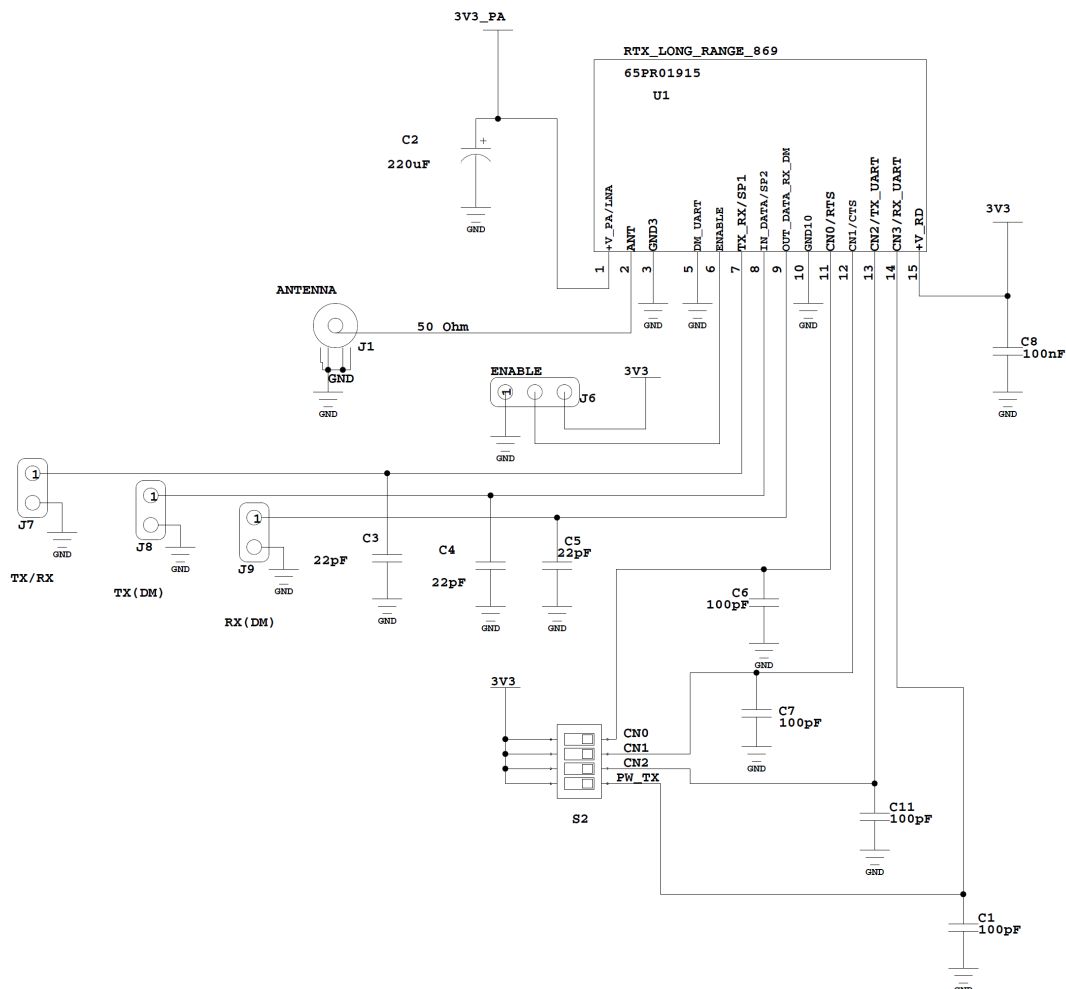
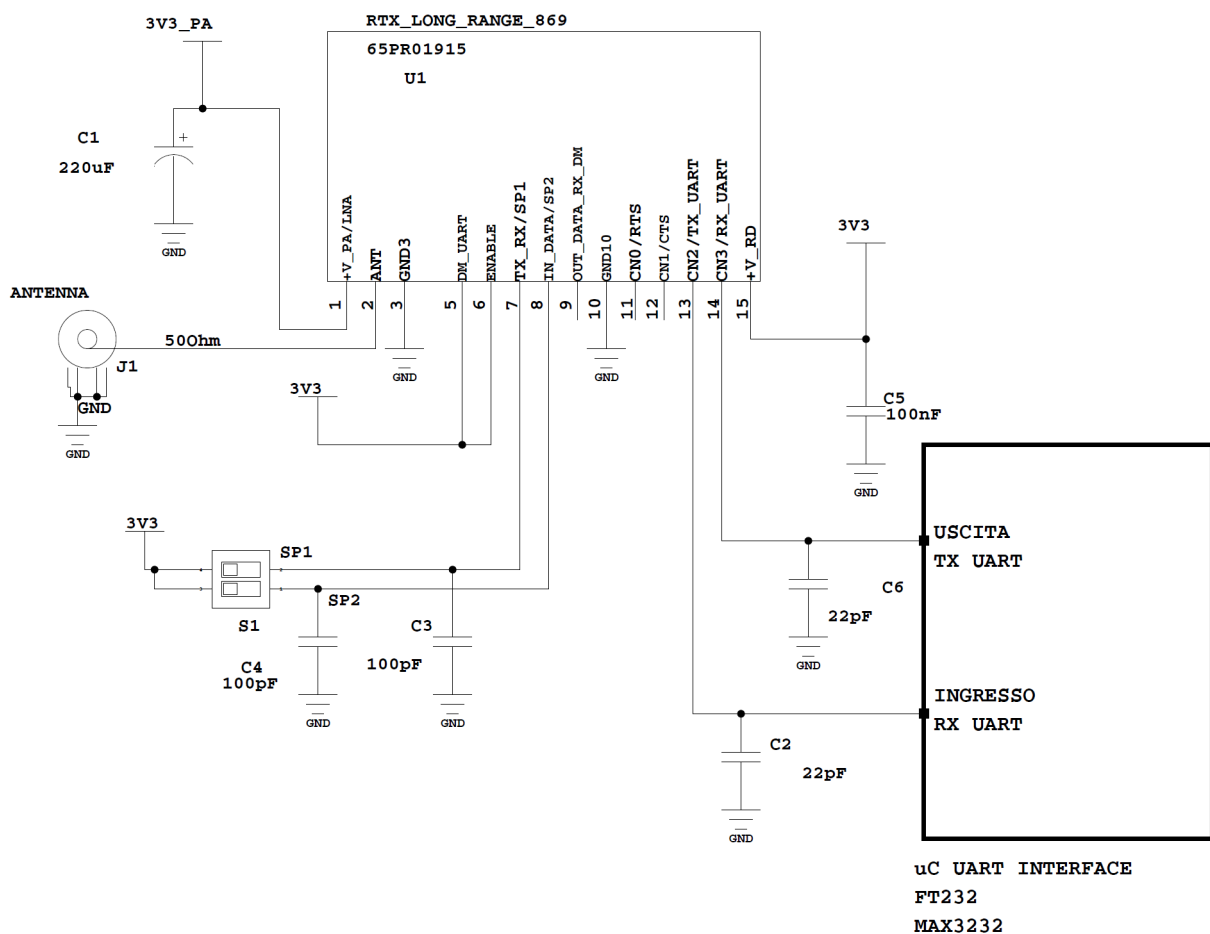
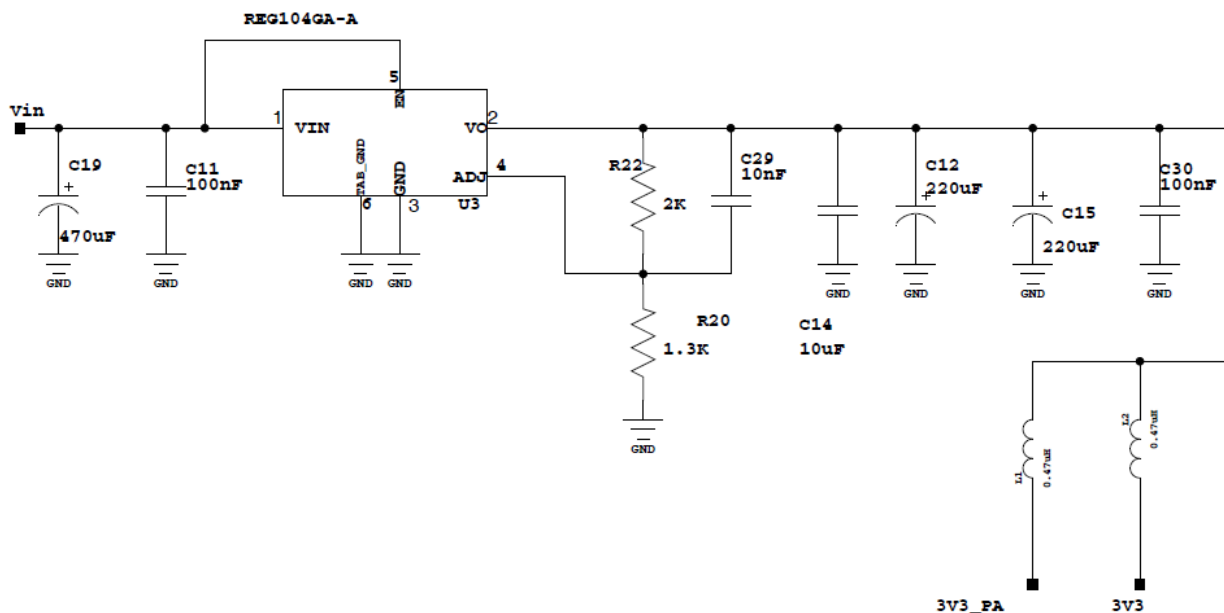

Figure 6
Figure 7
Figure 8 Stable power supply 3V-1A DC-DC
- Transmission is activated by setting high pin 7 (TX\_RX), the data will be transmitted through the connector J8 (see Figure 6);
- Reception is activated by setting low pin 7 (TX\_RX), the data will flow on connector J9 (see Figure 6) once it will be available.
See Figure 7 for the circuitual schematic, the dip-switch S1 select the data rate of the UART interface; TX, RX and radio module settings are defined by the serial asynchronous communication from the pin 13 and 14 of the module.
1. It must be supplied with a power source at very low voltage protection against shortcircuits. Maximum voltage variations allowed between 2.1 ÷ 3.6V. However it's highly suggested to maintain the voltage more stable as possible between the values declared on the Table 1 with a proper fast transient response power supply as per Figure 8.
Use capacitor of 22÷100pF in proximity between signal connections and ground. The value of the capacitor vary depending of the pin, see Figure 6 , Figure 7 and Figure 8 for more informations.